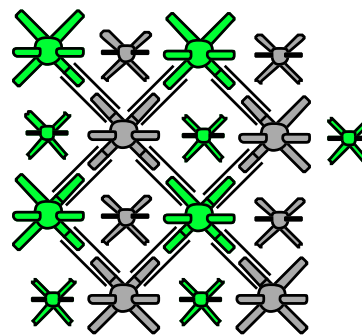

Fig. 3 Layer 2 below layer 1.
4. Connect layer 2 to layer 1 so that the cesium and chloride ions alternate in position. For clarity of illustration, bonds have been removed from layer 2 which is below layer 1 in Fig. 3.